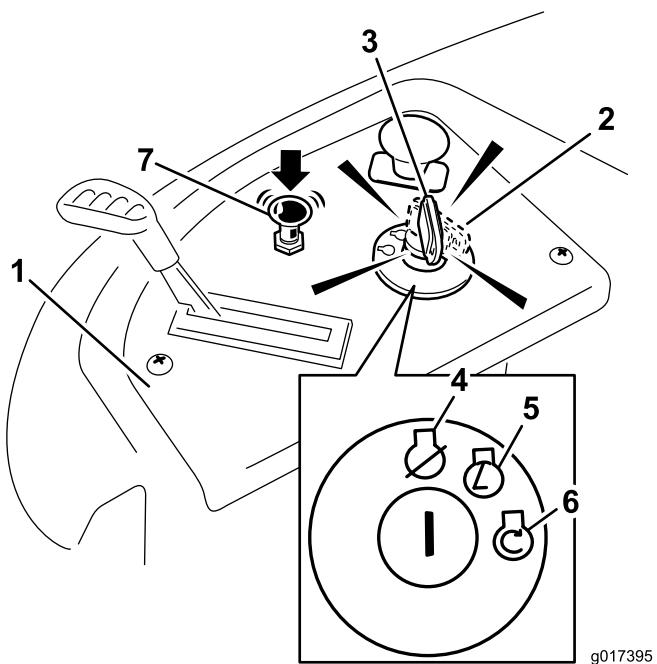

Figure 15
4. Turn the ignition key to Start to energize the starter (Figure 15).
5. After the engine starts, push down on the Choke control (Figure 15).
4. Turn the ignition key to Off (Figure 15) and remove the key.